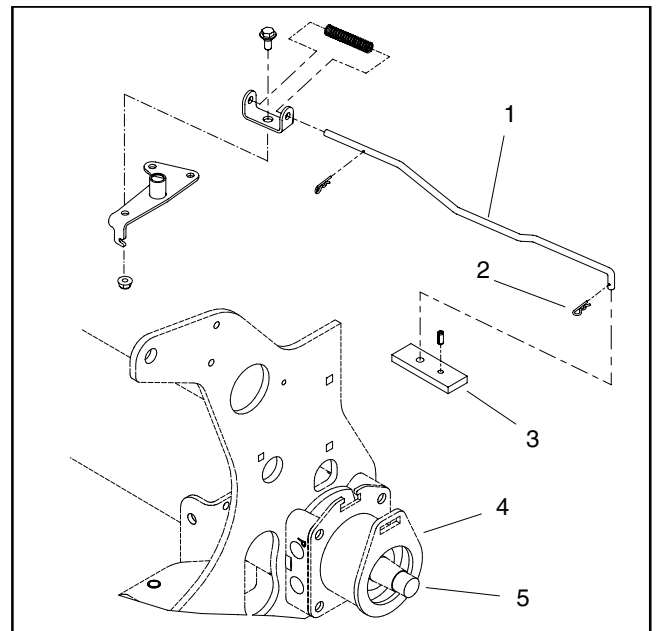

Figure 36
6. If rear wheel motor is being removed, pull hair pin that secures parking latch link to parking latch bar (Fig. 36). Slide link from bar and position link away from parking latch support.
7. Support wheel motor. Remove four (4) cap screws and lock nuts that secure motor to frame. If rear wheel motor is being removed, remove parking latch support and parking latch bar. Pull wheel motor from the machine.
A. On front wheel motor, insert four (4) cap screws through front fork holes and then through motor flange. Secure motor to front fork with lock nuts.
B. On rear wheel motor, insert four (4) cap screws through holes in parking latch support (with parking latch bar installed) and then through motor flange and frame. Secure motor to frame with lock nuts.
3. If rear wheel motor was removed, slide parking latch link through parking latch bar and secure with hair pin (Fig. 36).